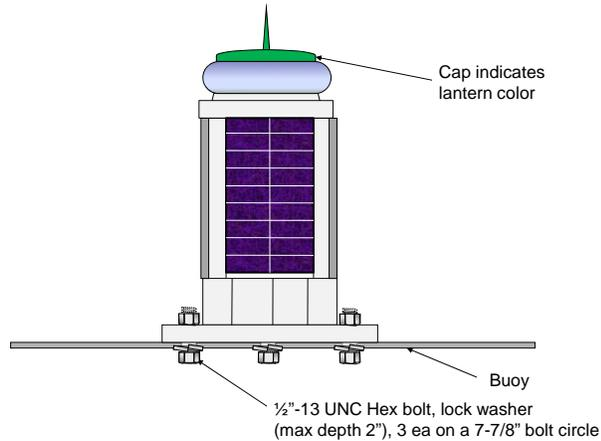

Figure 3-10
- b. On steel buoys, install three  $\frac{1}{2}$ " stainless steel bolts and flat washers through the lantern mounting holes and three flat washers and Nylock nuts to secure the lantern. Avoid tall bolts that could shadow the solar panels. Split washers and nuts can replace Nylock nuts. See Figure 3-10.